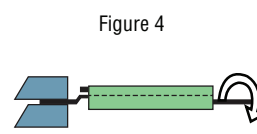

Figure 4
- d) Do not apply more than 0.6 cN-m twist torque to the breaker terminals (refer to Figure 4)